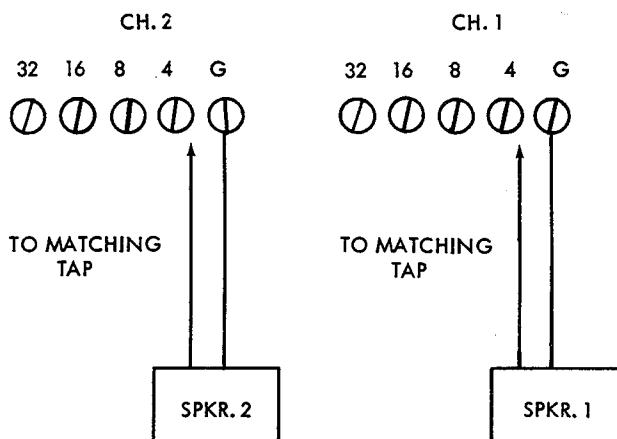

FIG. 1a. SPEAKER CONNECTIONS
a) INTERNAL POWER AMPLIFIERS OPERATED SEPARATELY, EACH DRIVING ONE SPEAKER OF A STEREO PAIR. This arrangement is used when there is no other amplifier the user desires to include in the system. The SERVICE SEL. slide switch on top of the chassis must be set to SEP- arate. Signal connections are all internal, so only the speaker connection need to shown (Fig. 1a, rear chassis view). The internal arrangement in the HF-81 at each of the positions of the FUNCTION selector are shown in Figs. 1b, 1c, 1d, 1e, 1f, and 1g, as an aid to understanding the operation with this arrangement.